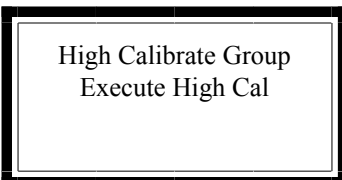

Figure 10b: Executing the High Calibration Variable.
- 4) Toggle the "Next" key until you reach the "Execute High Cal" Menu, Figure 10b, and press the MODify key, and follow the two remaining prompts. (Continue, Ready)